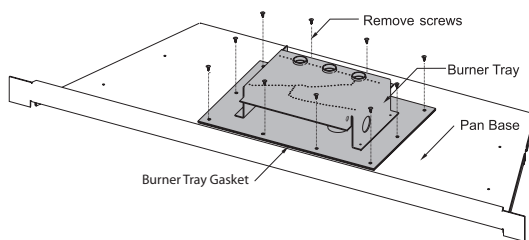

Figure 5b. Gas line access.
**To access the fireplace gas connection the main burner must be removed as shown below in figure 5b.**